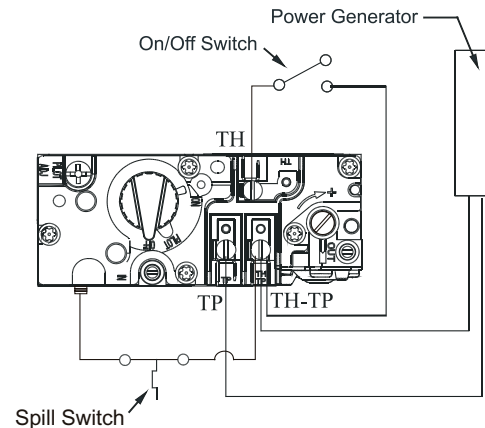

Figure 10a. Honeywell gas valve used on the EP28-2LB or the
- Have the fireplace installation inspected yearly, including a visual check of the vent system, the burner and the pilot flame. For your convenience a 1/8" manifold pressure tap is supplied on the gas valve for a test gauge connection. See Figure 10a and 10b.
2. Locate Pilot Adjustment Screw. (See figures 10a or 10b)
3. Adjust pilot key to provide properly sized flame. (See figure 10a or 10b).
Pilot won't ignite	Disconnect remote wires and try to light pilot. If pilot now works, remote connections are faulty. Check wiring diagram figure 10a/b.
Main burner will not light	1. Check wiring (see figure 10a/b) 2. Check wall switch for proper connection.